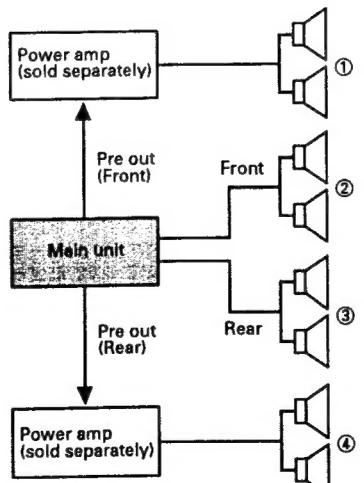

Fig. 5
This fader controls the balance between speakers ② and speakers ③, which are shown in Figure 5.
This unit has a fader that controls the balance between speakers ② and ③, shown in Figure 5, using button [1], and a prefader that controls the balance between speakers ①, ②, ③ and speakers ④.
- DEH-P605 does not have a pre out for the front, speaker ① cannot be connected.
The pre-fader function of this unit controls the balance between speakers ①, ②, ③ and speaker ④, which are shown in Figure 5.